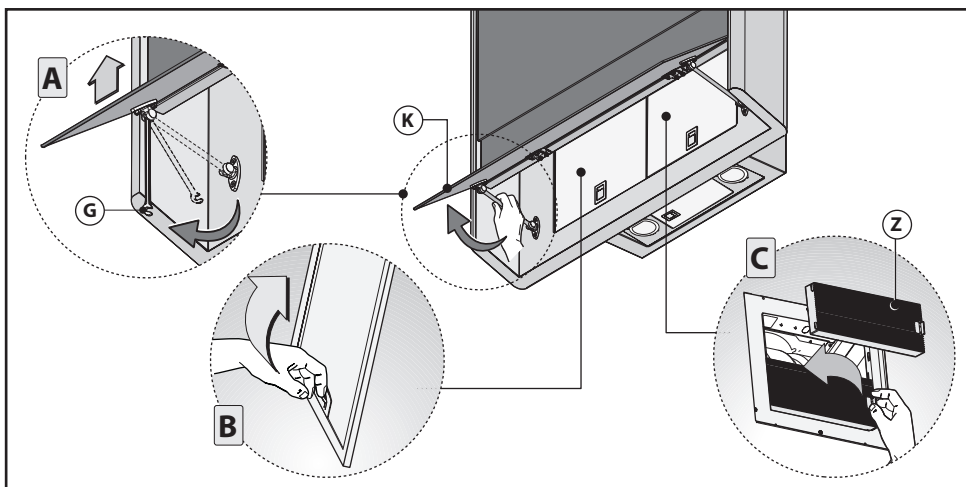
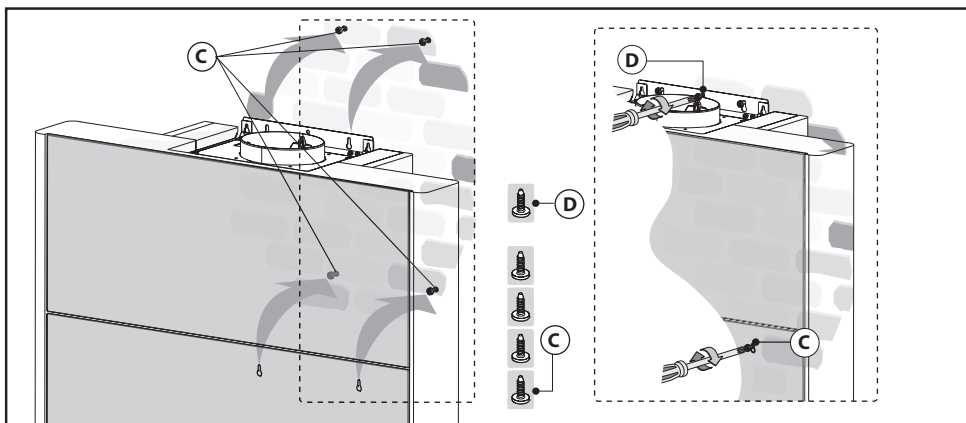

Fig.5
Fig.6
- Position the appliance at the wall (Fig.6).
- When you have done the above, open panel **K** (Fig.5) and remove the anti-grease filter (Fig.5B). It is now possible to fasten the hood on definitively by tightening screws **C** and **D** (Fig.6).